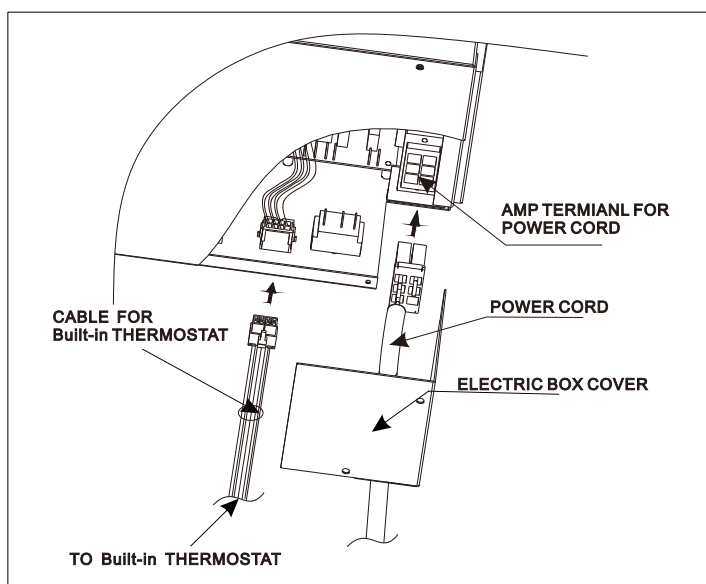

Fig.03: CABLE CONNECTION
- 1.Remove junction box cover by moving three screws. See Fig.03
- 2.Connect accessory power cord to unit. See Fig.03
- 3.Use wire clamp to attach power cord and cable for built-in thermostat to base pan, See Fig.03.
Connect the built-in thermostat cable with the chassis as Fig.03